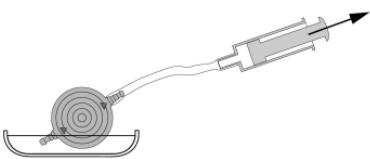

Fig. 19: Patency test
M.blue should be vented before implantation and checked for permeability. The most careful way of filling the valve is by aspiration through a sterile single-use syringe attached to the distal end of the catheter. The distal end of the valve is connected and immersed in a sterile physiological salt solution. The valve is continuous if saline solution can be extracted (fig. 19).